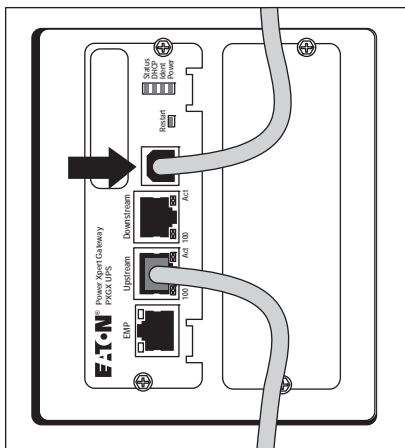

Figure 4. Install the USB Cable
2. Plug the supplied USB cable into the Setup port on the card (see Figure 4).